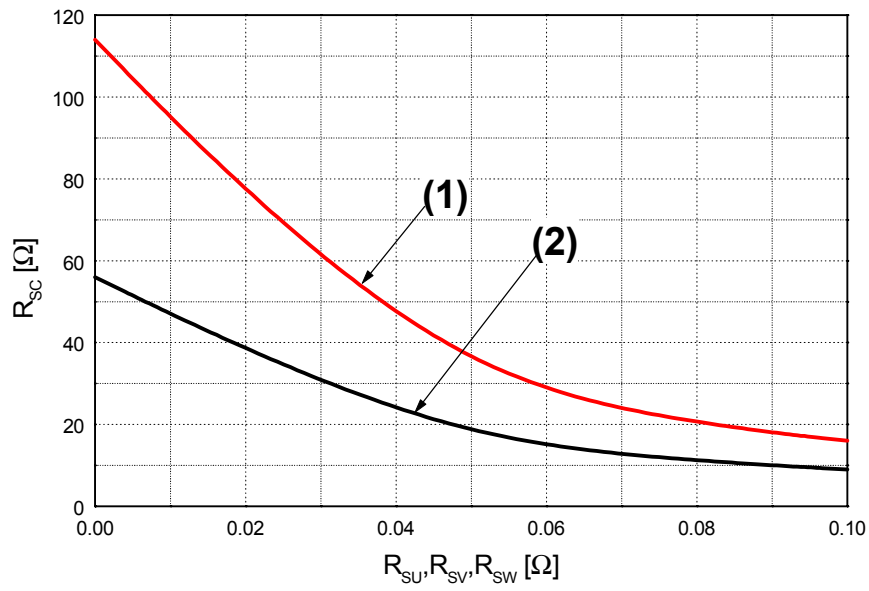

Fig. 6. R_{sc} Variation by change of Shunt Resistors (R_{SU}, R_{SV}, R_{SW}) for Short-Circuit Protection
- Short-circuit current protection is functioning only at the low-sides. It would be recommended that the value of the external sensing resistor (R_{SC}) should be selected around 56 Ω in order to make the SC trip-level of about 22.5A at the shunt resistors (R_{SU}, R_{SV}, R_{SW}) of 0Ω. For the detailed information about the relationship between the external sensing resistor (R_{SC}) and the shunt resistors (R_{SU}, R_{SV}, R_{SW}), please see Fig. 6.